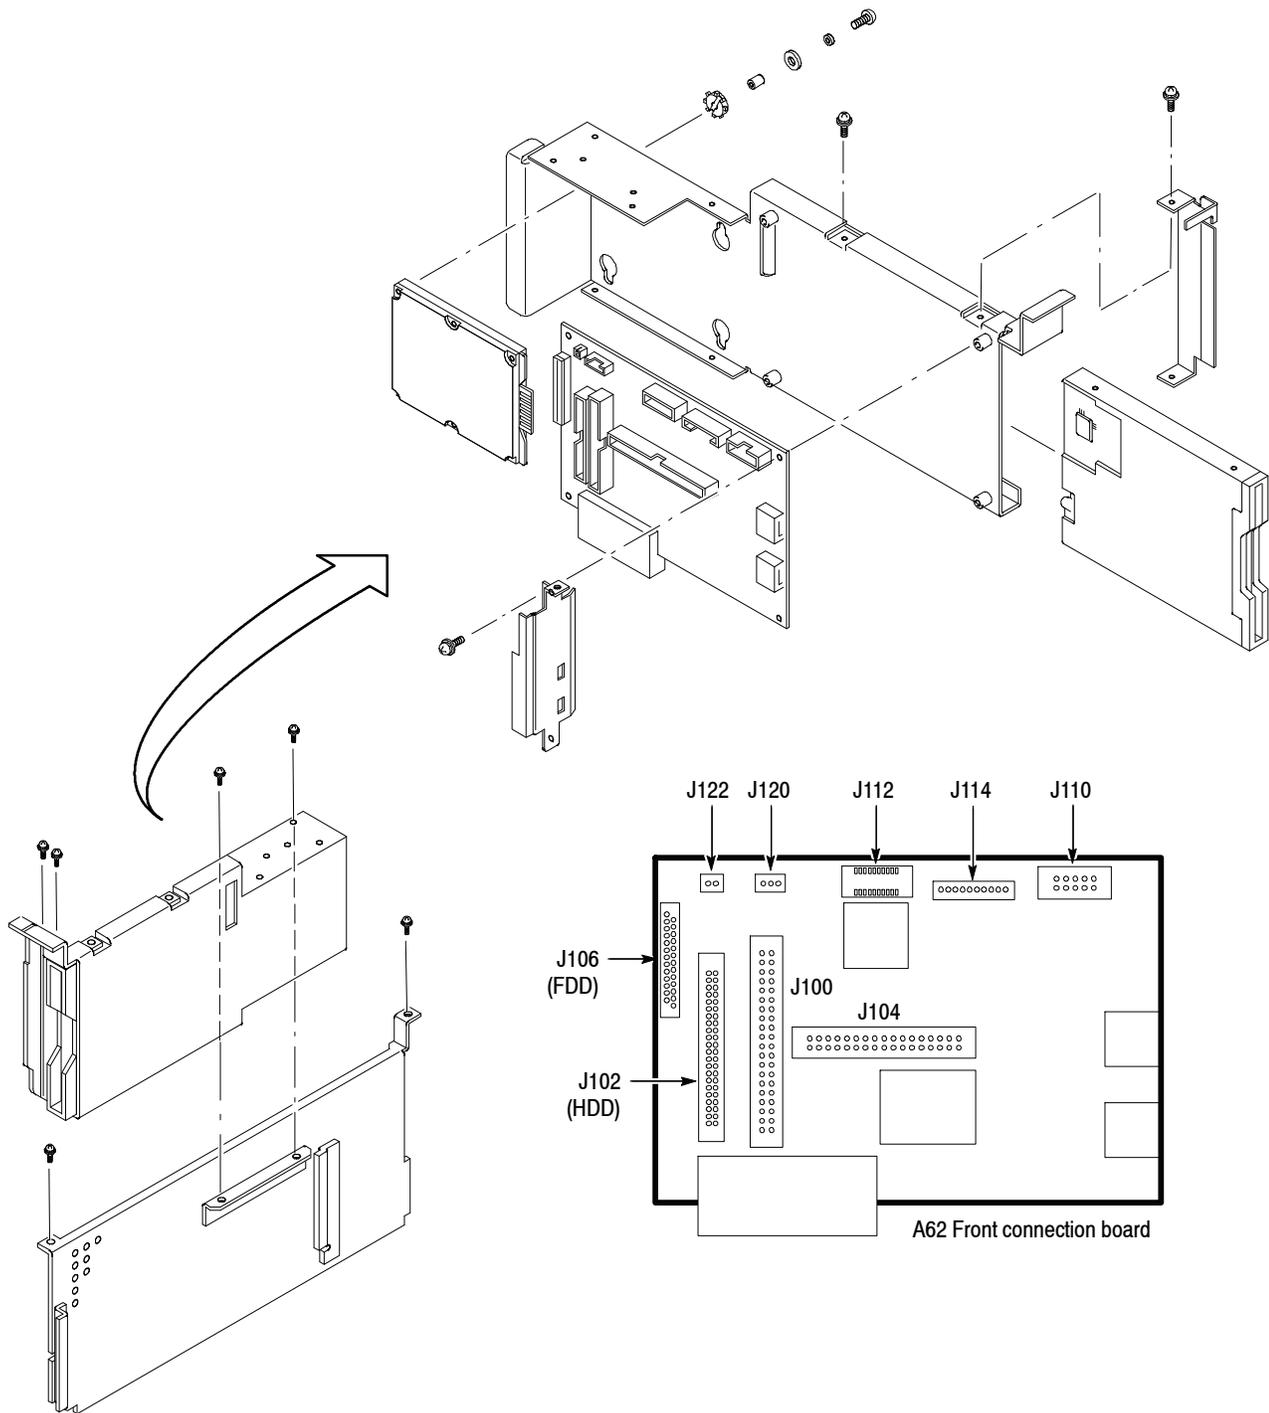

Figure 5-17: Disk module removal
3. Orient the analyzer: Set the analyzer so its bottom is down on the work surface and its left side is facing you.**4. Remove the disk bracket:** See Figure 5-17.
3. *Remove the floppy disk drive:* See Figure 5-17.
3. *Remove the A62 Front connection board:* See Figure 5-17.